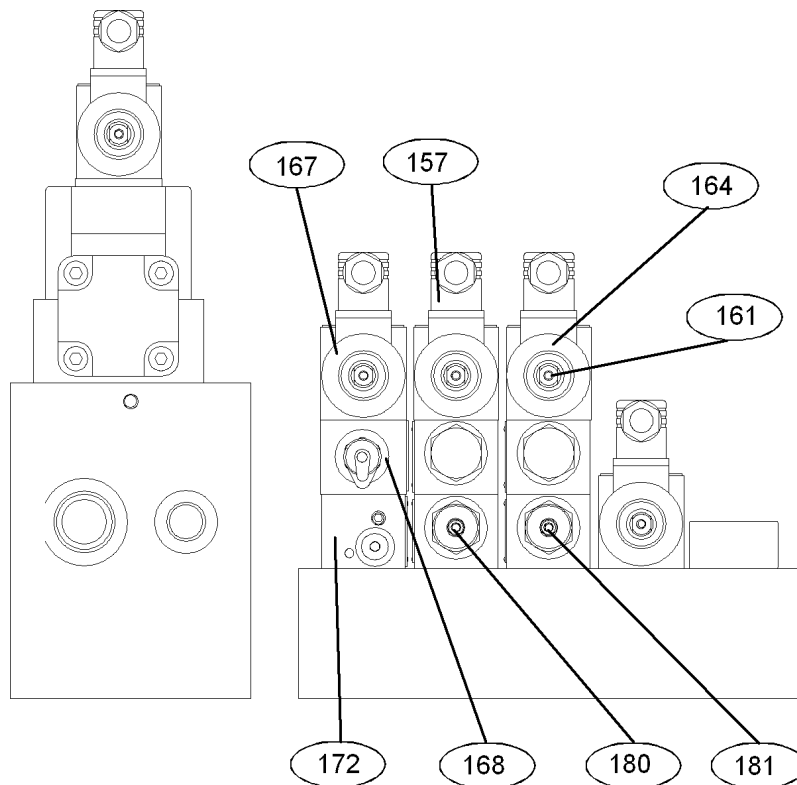

Fig. 77
- All directional control valves are equipped with a manual emergency control (161, Fig. 77), offering manual switching without control tension. The valves are equipped with a countersunk pin in the center of the magnet face. If necessary, this pin can be pushed down with a suitable object. Do not use pointed or sharp edged objects, so that the valve does not get damaged. All emergency controls are manufactured with a return spring. When not in use, the switches shown in the switch schematic should be in a neutral position.
- Each of the two directional control valves (157, 164) has an intermediate plate with two integrated choke/air regulator non-return valves (180 + 181, Abb. 77). Unscrewing the choke/air regulator increases the rotation speed. Screwing in the choke/air regulator decreases the rotation speed. Depending on the design, the screwing or turning of the choke/air regulator is done with either a knurling nut or a hexagon pin spanner (monkey wrench) Tighten the choke/air regulator with a counter nut after adjustments are made.
- Manual operation: Close the return valve chokes (180 + 181, Fig. 77), (screw in the set spindles on the front and back of the valves all the way).